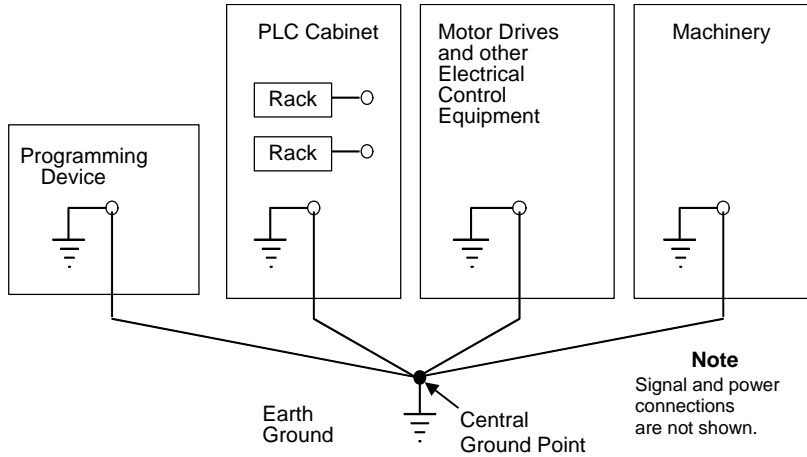

Figure 1-2. Recommended System Grounding
- Ground conductors should be connected in a star fashion with branches routed to a central earth ground point. This ensures that no ground conductor carries current from any other branch. This method is shown in Figure 1-2.